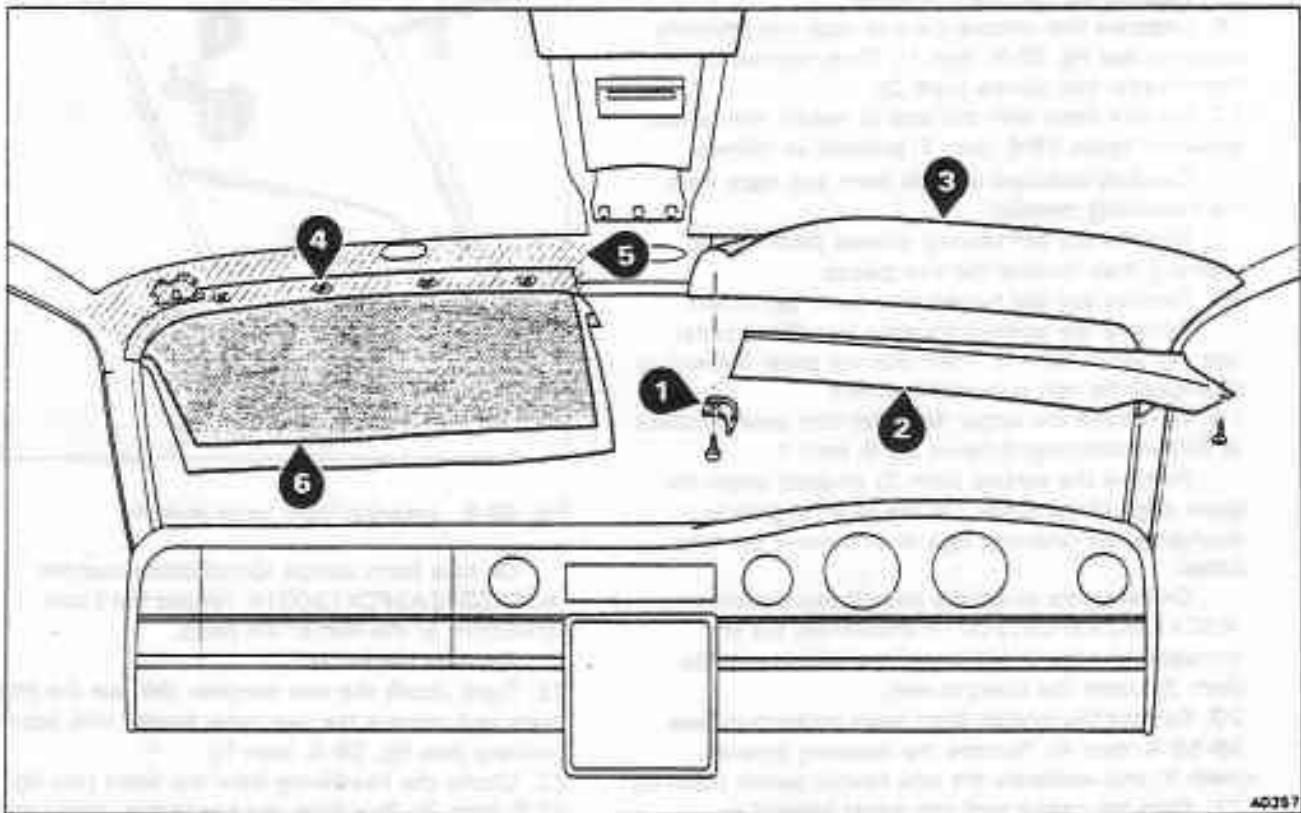

Fig. S8-6 Front header trim panels
16. Unscrew and remove the sun visor clip retaining brackets (see fig. S8-6, item 1). Then, remove the front header trim panels (item 2).
17. On cars fitted with the type of header trim pieces shown in figure S8-6, item 3, proceed as follows.
10. On cars fitted with the type of header trim pieces shown in figure S8-6 item 3, proceed as follows.
Apply Apollo Adhesive AX2344 to the header panel covering an area approximately 75.0 mm (3.0 in) wide. Refer to cross hatched area shown in figure S8-6, item 5. Allow five minutes for the adhesive to 'flash' dry, then press the foam panel (item 6) firmly into position. Using a sharp trimming knife, carefully remove any excess foam.